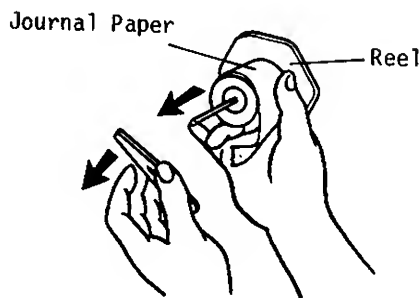

Fig. 11
2. The wound-up portion of the paper can easily be removed from the Reel by pulling it side way (Fig. 11).